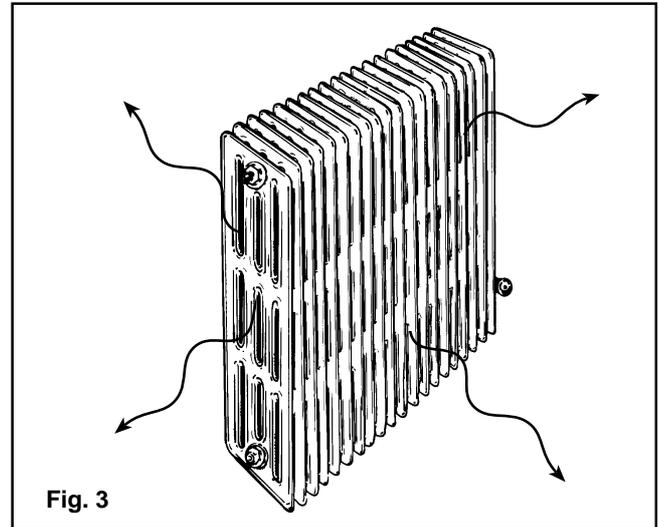

Fig. 3
- **Radiation**, that is what happens when a radiator releases the part of heat it receives from a body near but not touching it (**figure 3**).